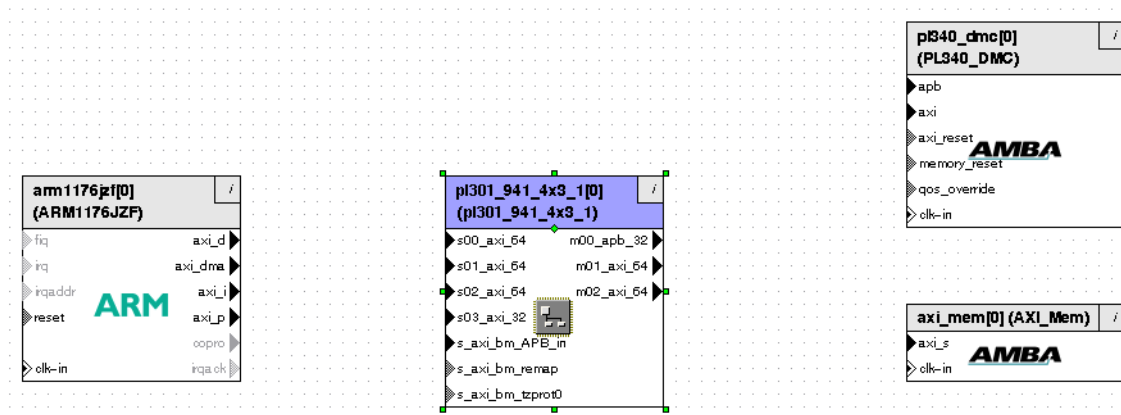

Figure 7-4 ARM1176JZF, interconnect, DMC and AXI memory
- Press and hold the left mouse button on the interconnect component PL301_XXX_4x3_1 in the Component Window and drag it on to the Diagram Window. Release the left mouse button, so that it places the interconnect between the ARM1176 processor and DMC, as Figure 7-4 on page 7-4 shows.
- d. Click on the Diagram Window, so that it places the interconnect between the ARM1176 processor and DMC, as Figure 7-4 shows.